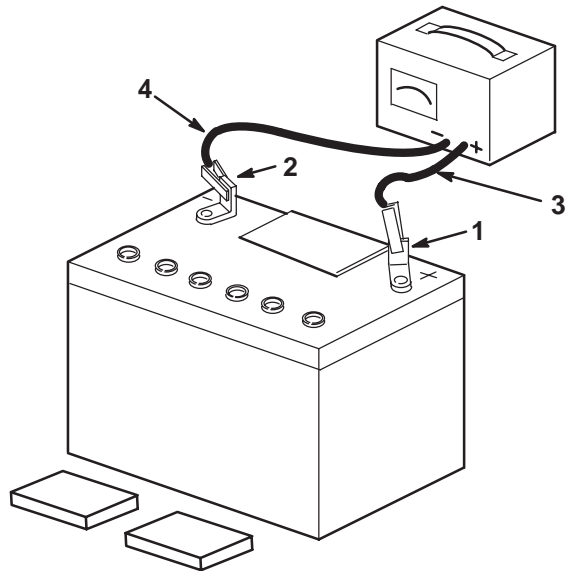

Figure 5
3. Leave the filler caps off and connect a 3–4 amp battery charger to the battery posts (Fig. 5). Charge the battery at a rate of 4 amperes or less for 4 hours (12 volts).
4. When the battery is fully charged, unplug the charger from electrical outlet, then disconnect the charger leads from the battery posts (Fig. 5).